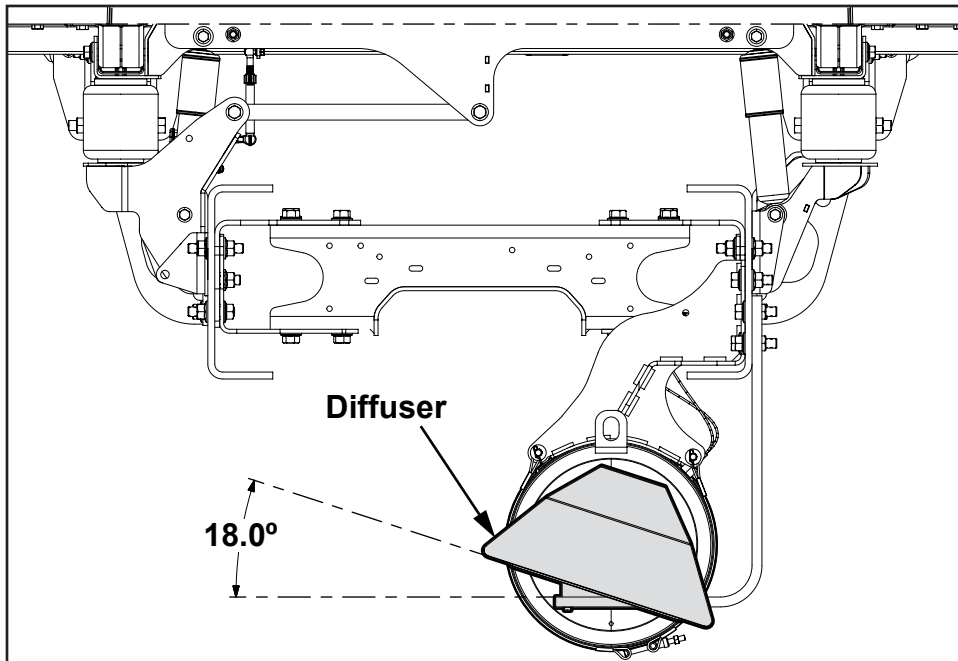

Figure 2, View From The Rear Of The Truck
4. Inspect the diffuser and verify that it is directed away from the fuel tank at approximately 18 degrees (see *Figure 2*).